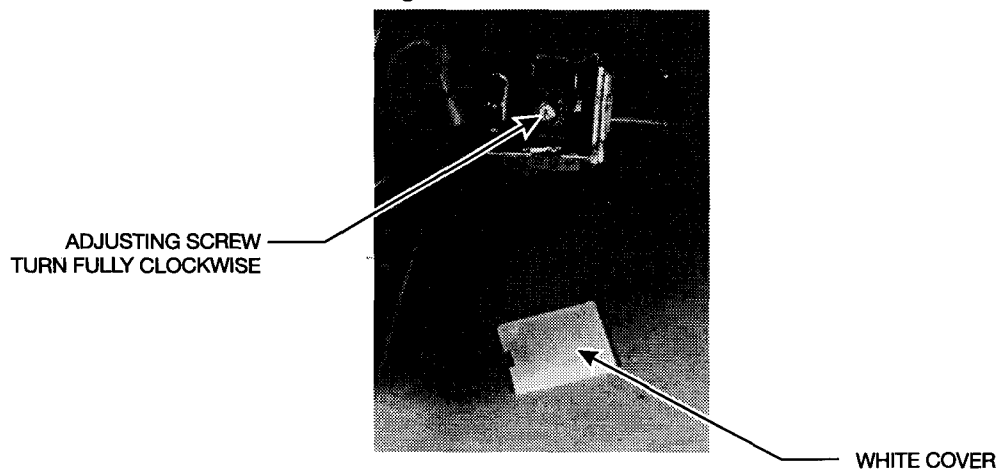

Figure 34
32. Reset the thermostat as follows: **See Figure 34.**